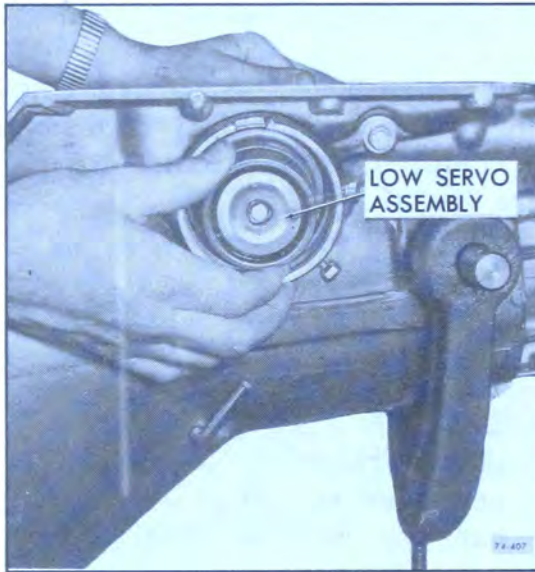

Figure 74-301
1. Install low servo piston assembly into case. See Figure 74-301.